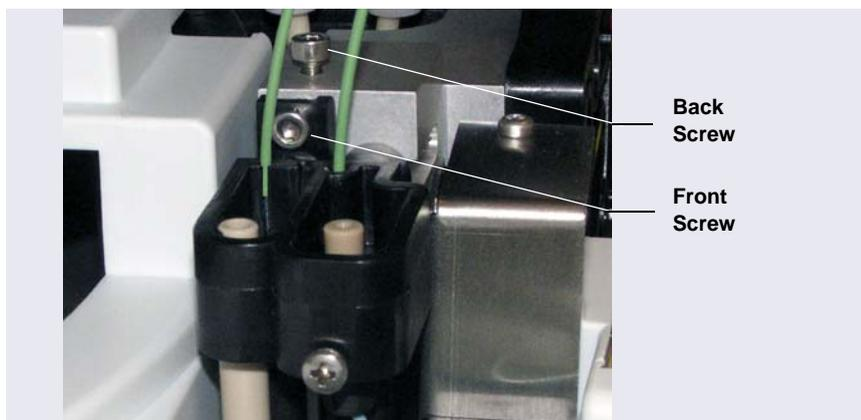

Figure 5-7. Wash and Injection Port Attachment Screws
- a. Locate the two screws that attach the wash and injection ports to the autosampler (see Figure 5-7).